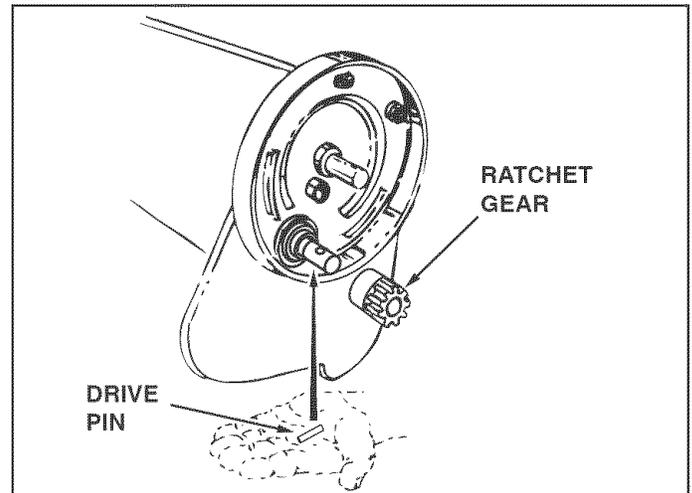

FIGURE 29
- Slide the gear off of the brush shaft. (Look for the drive pin, which may fall out of the brush shaft when the ratchet gear is removed.) See figure 29.